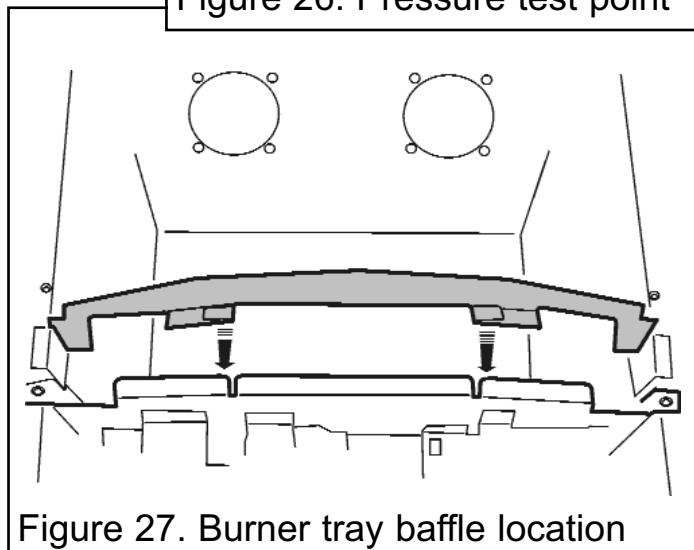

Figure 27. Burner tray baffle location
5. **Homeflame Dream and Homeflame Petrus only** - Fit the burner baffle to the front flanges of the burner. To do this, locate the tags on the baffle over the front flanges of the burner and lower into position (See figure 27).